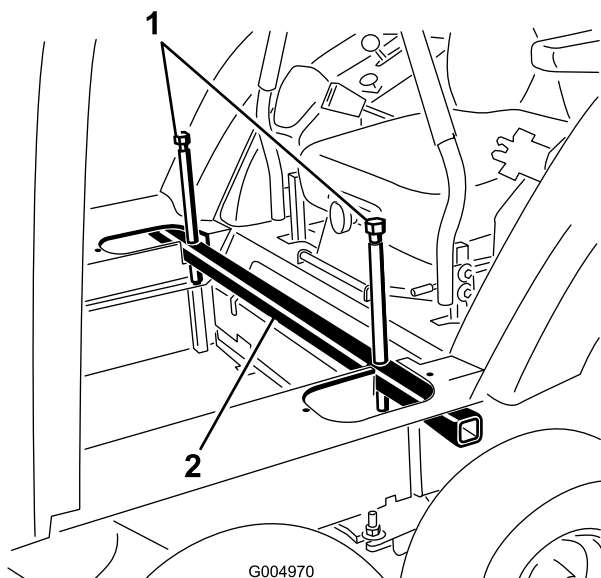

Figure 118
28. Loosen the jacking bolts and remove the cab jack tube from the cutouts in the cab floor (Figure 118).